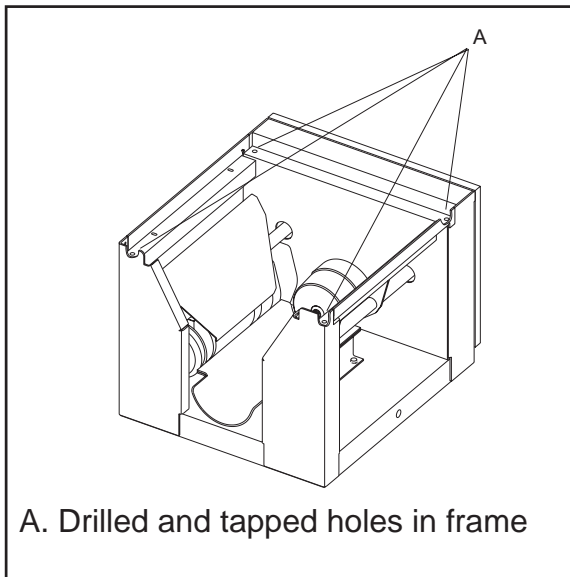

Figure 7. Location of Mounting Holes in Frame
3. When the drilled hopper is installed, the holes line up with tapped holes in the frame. See Figure 7.